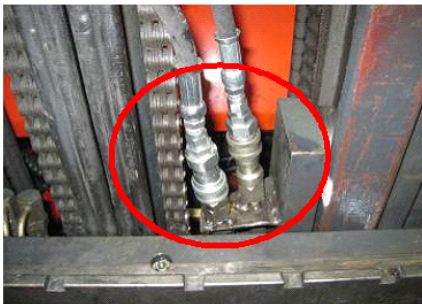

Figure 1
3. Attach hydraulic quick couplers on 48" long hoses to those on lift truck auxiliary control valve. (shown in Figure 1)